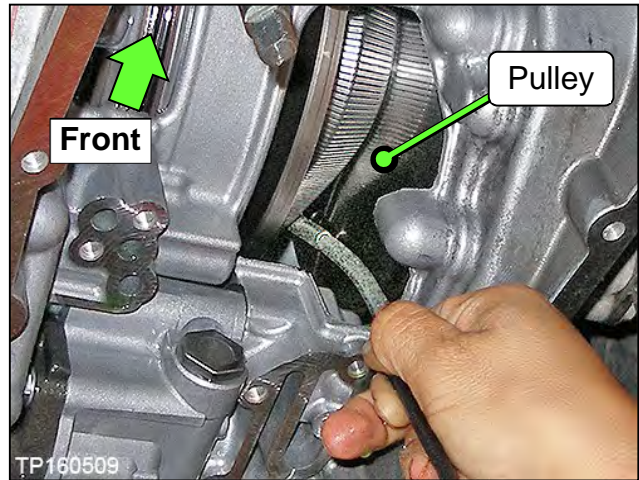

Figure 15
8. Insert the camera lens in the second location where shown in Figure 15, and then perform step 7 again.